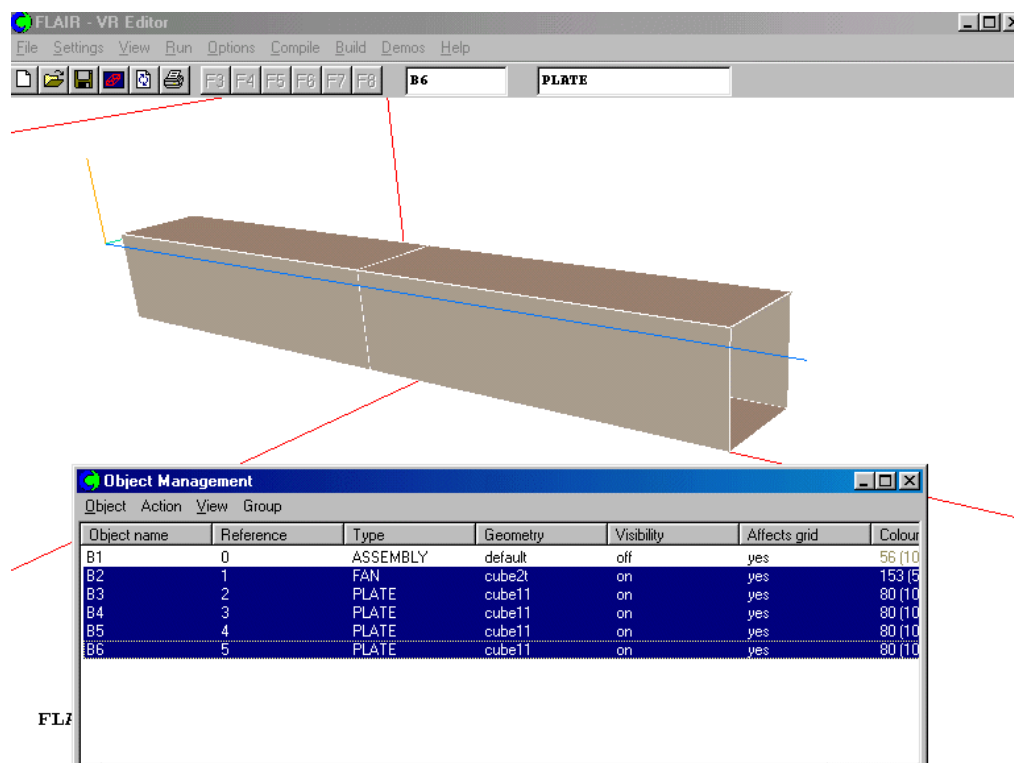

Figure 3.23 The Fan+x20 assembly
- **fan+x20.pob** is an assembly consisting of 5 components, a fan and 4 plates forming a duct as shown in figure 3.23.